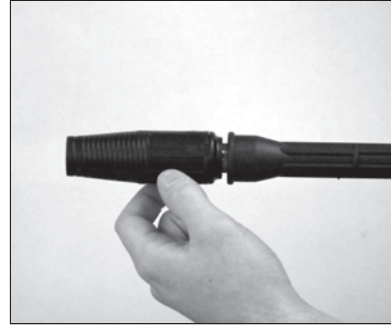

Figure 7
**Multi-Reg** — Pull back nozzle for high pressure—Figure 7.